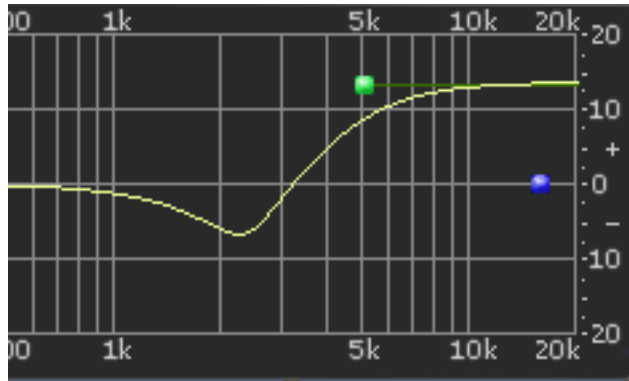
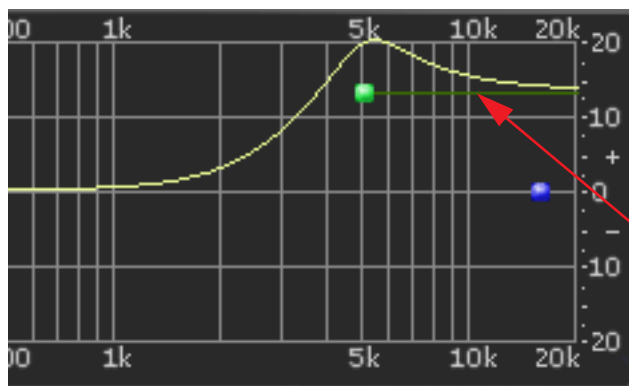
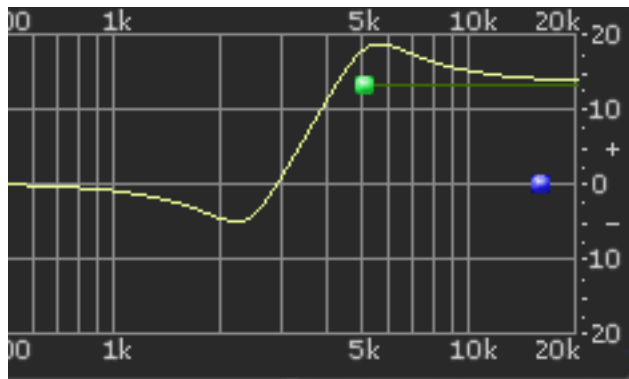

Figure 56. Shelf Type A
Figure 57. Shelf Type B
Figure 58. Shelf Type C
The button is green when shelving is enabled. Additionally, the control bar associated with the band has a horizontal shelf indicator line in the response curve display (see Figure 57 on page 183) when shelf mode is active.
The Shelf Type button places the resonant peak at (A) the edge of the stopband (Figure 56 on page 183), (B) the edge of the passband (Figure 57), or (C) at the edge of the stopband and the passband (Figure 58).